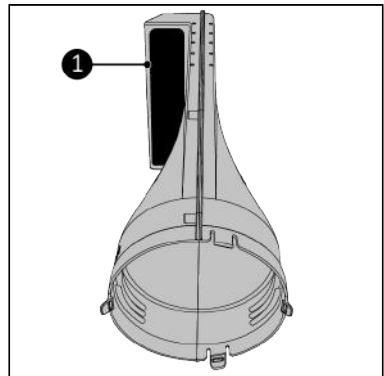

Figure 60.
4. Place the Way-out in front of you. Make sure the round opening is facing towards you (Figure 60).
5. Make sure the air outlet (Figure 60, pos. 1) is pointing to the left.